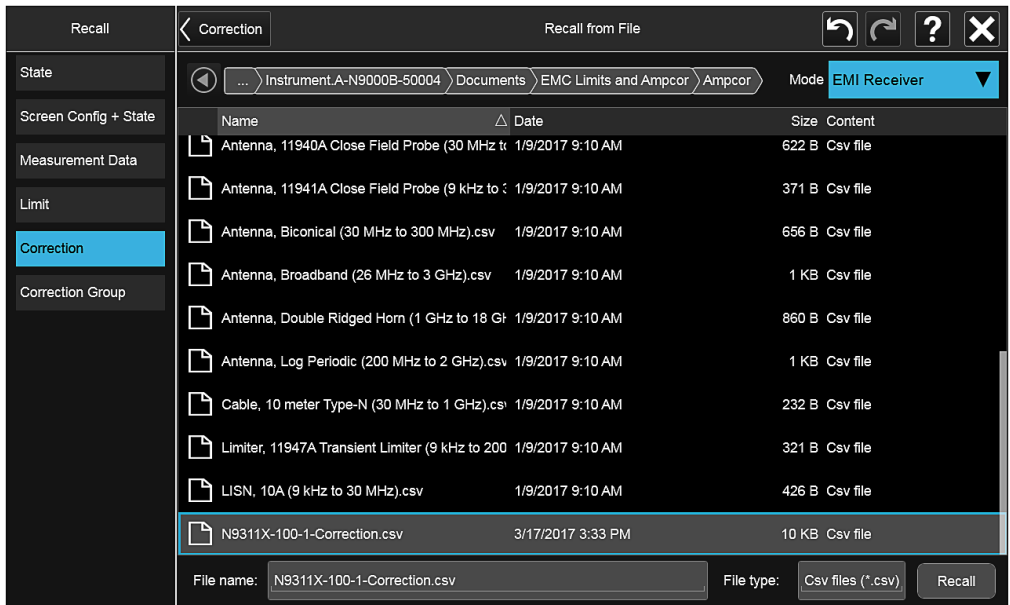

Figure 7. Conducted ambient emissions.
2. Correct for the LISN and the transient limiter which is used to protect the input mixer. The correction factors for the LISN and transient limiter are usually stored in the signal analyzer and they can be easily recalled (See Figure 7). View the ambient emissions (with the DUT off). If emissions above the limit are noted, the power cord between the LISN and the DUT may be acting as an antenna. Shorten the power cord to reduce the response to ambient signals.